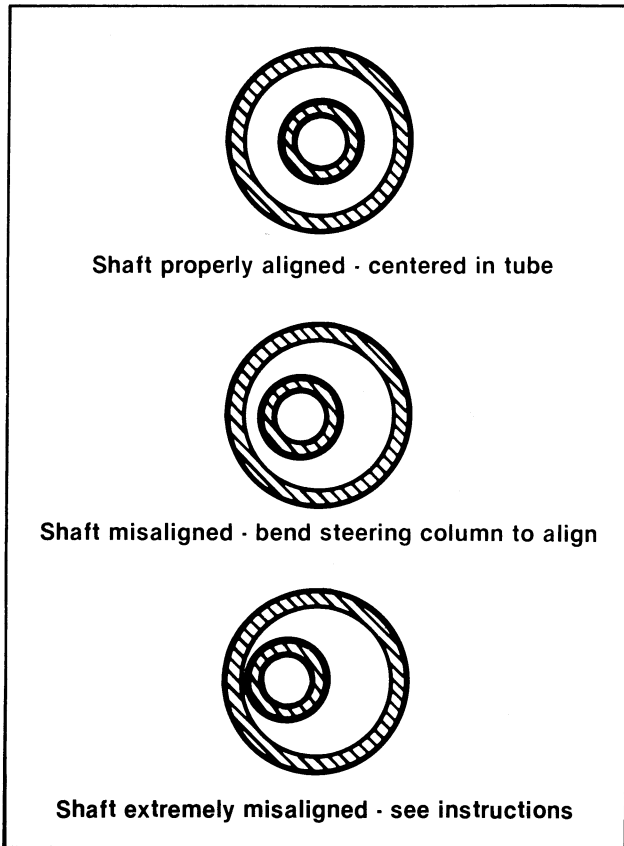

Figure 2-18. Column Alignment
2. See Figure 2-18. Inspect the steering shaft, with respect to the column tube, for proper centering. If properly centered no alignment is necessary. Complete installation. See steering gear unit, INSTALLATION.